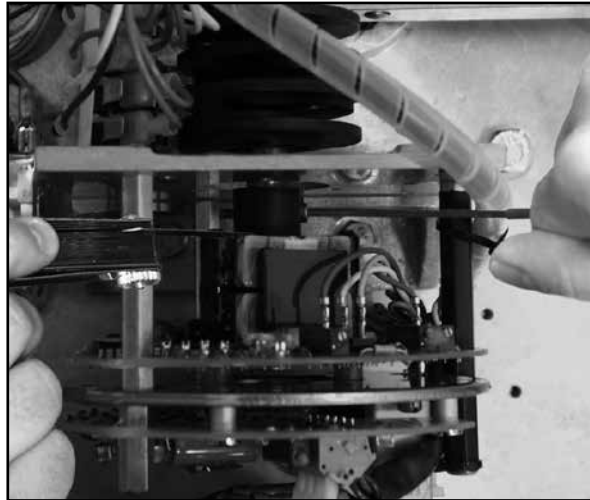

Figure 8
8. Loosen the rotor clamp and reset its position (use the thickness gauge; see Figure 8, page 28) to achieve the desired value of maximum output signal. For example, 20 mA. NOTE: Rotor adjustment moves the entire span up or down. Also observe the meter as you rotate the rotor to ensure that the signal is changing in the proper direction.